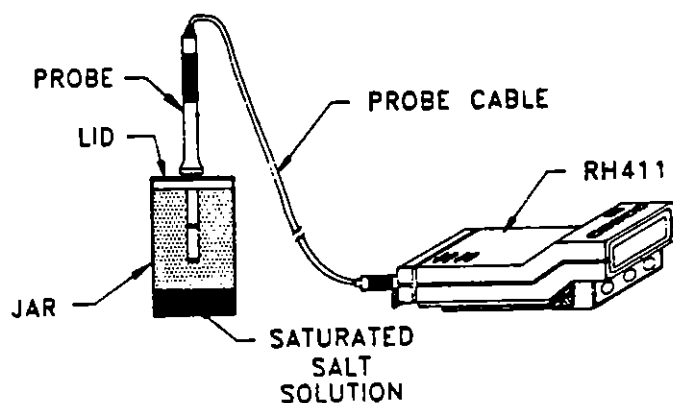

Figure 5-1. Calibration Setup
1. Set up the RH411 with the temperature/humidity sensor in a sealed jar with saturated salt of the appropriate concentration as shown in Figure 5-1.